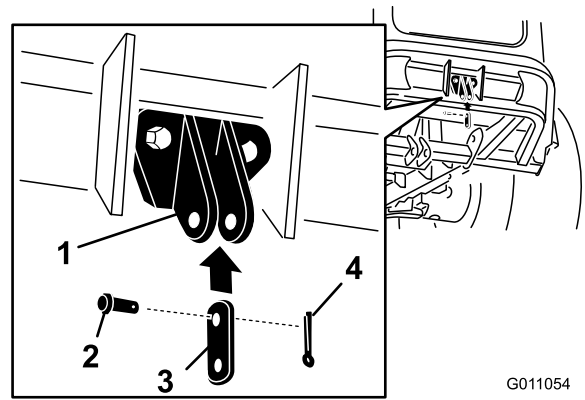

Figure 8
1. Install the link to the link mounting bracket with a small clevis pin and small cotter pin (Figure 8).